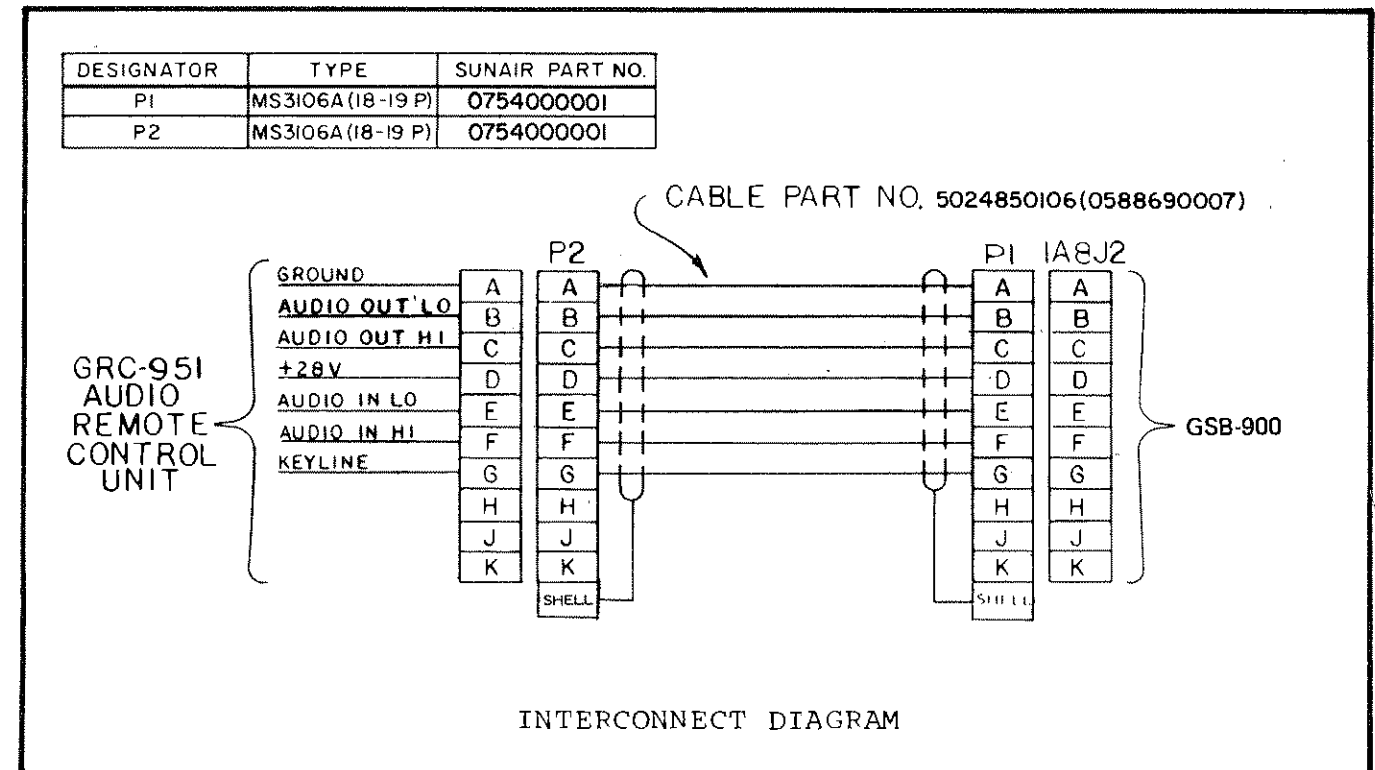

Figure 6.4 GRC-951 Audio Remote Control Unit Interconnect Diagram
- c) Refer to figure 6.4 and wire connectors P1 and P2. Note that the cable shield is grounded to Pin a only at the end connected to the transceiver.